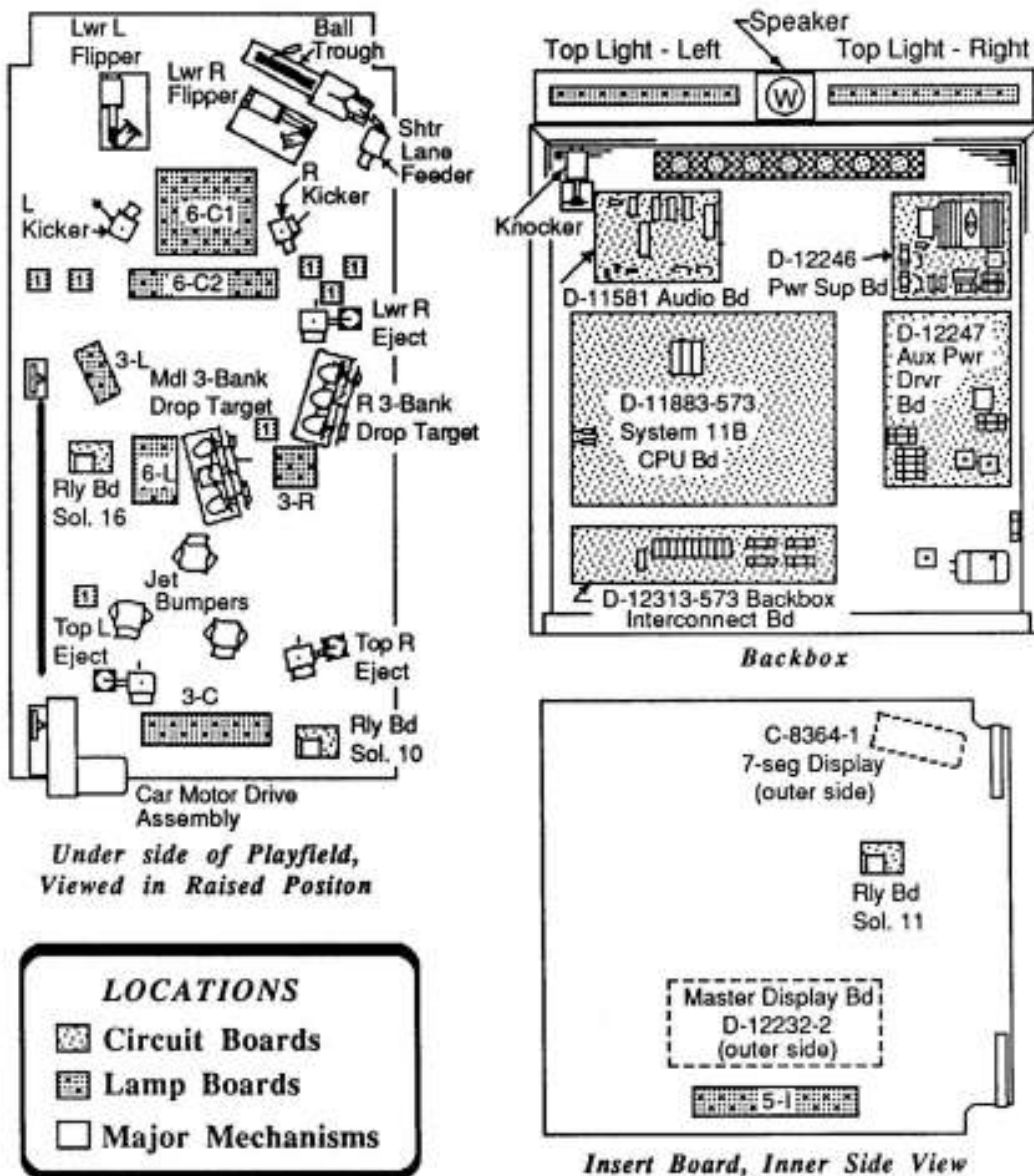
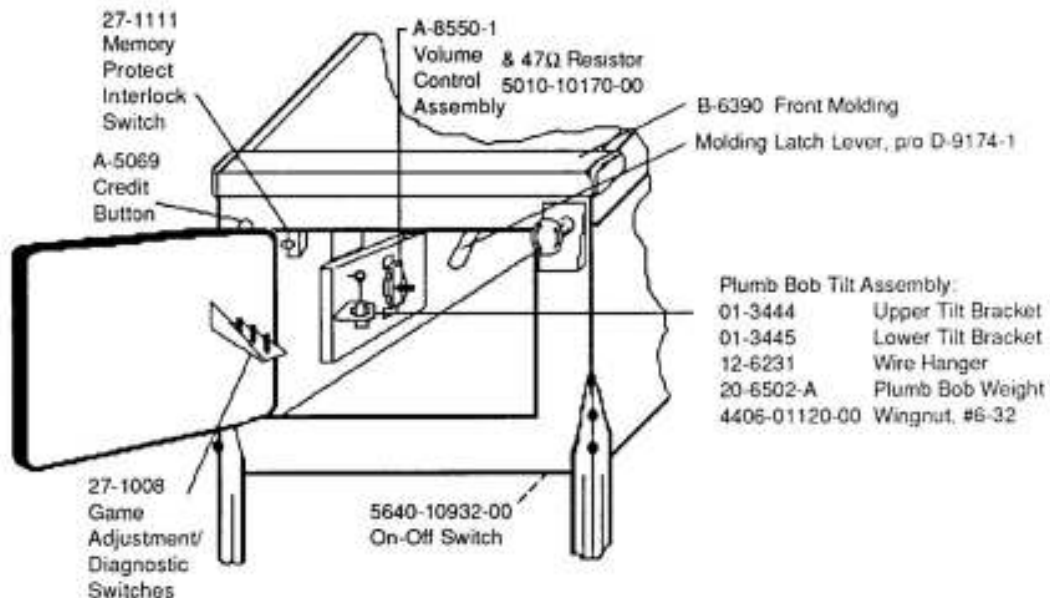

Figure 1. Locations Diagram - Game Circuit Boards and Major Mechanisms
Figure 2. Pinball Game Controls Locations
Figure 1 shows the locations of these circuit boards, as well as other devices especially located to make **POLICE FORCE** a great game.
Figure 2 shows the locations of the following switches, except for the last two (CPU and Sound Diagnostic switches, which are shown in the Backbox portion of Figure 1, along the left edge of the CPU Board).
Figure 1 shows the locations of the two CPU Board switches (left edge of CPU Board, Backbox View).
7. Unlock and open the coin door. Locate the Molding Latch Lever (shown in Figure 2), and move the lever toward the left side of the game, to release the Front Molding. Lift the Front Molding off the playfield cover glass; return the Latch Lever toward the right, and close the coin door. *Carefully* slide the glass downward, until it clears the grooves of the Left and Right Side Moldings. Lift the glass up and away from the game, storing it carefully to avoid breakage.